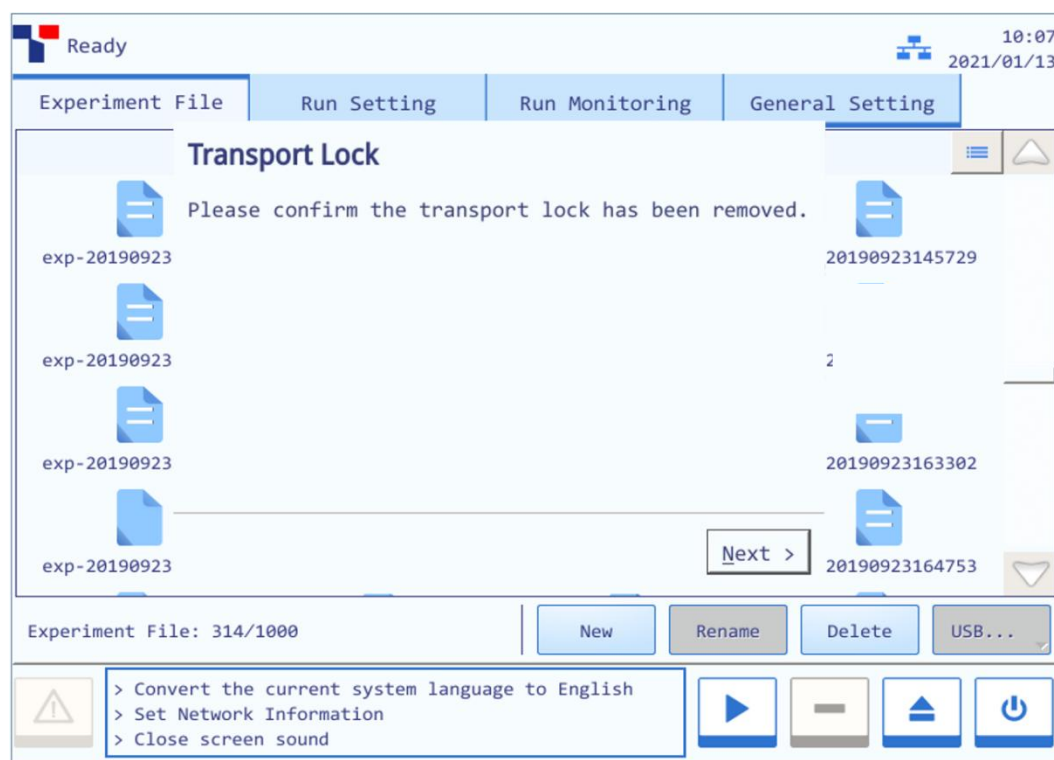

Figure B-4. Instrument System Software - Unlock the Gentier Instrument (1)
**1st step:** the instrument system software will prompt user to confirm that the transport lock has been removed, as shown in figure B-4.